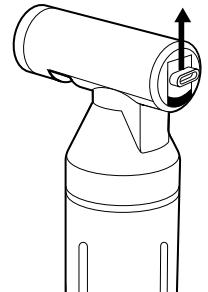

Figure 6. Slide lock in unlocked (up) position
8. Move the slide lock to the unlocked (up) position (Figure 6).